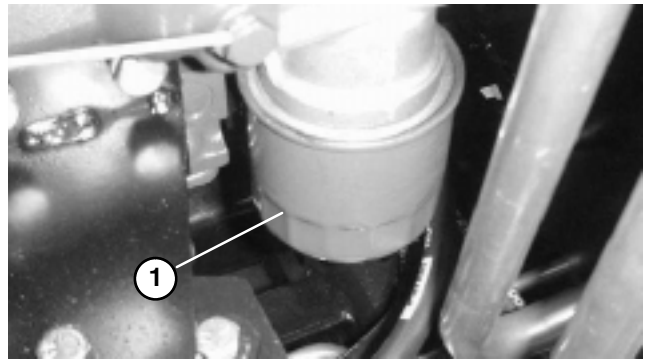

Figure 46
2. Remove oil filter (Fig. 46). Apply a light coat of clean oil to the new filter seal before screwing it on. **Do not over-tighten.**